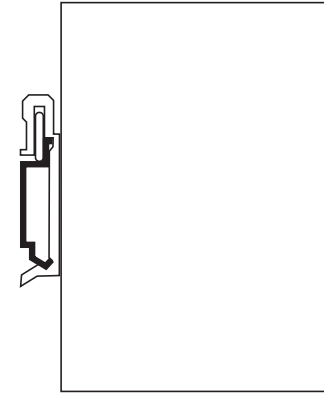

Figure 2
- Snap the Media Converter firmly into place onto the DIN-Rail as shown in Figure 2.